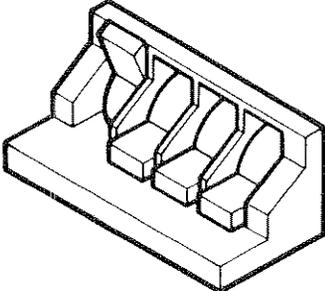

Figure 1-6: Address Switch Settings
Check the peripherals that you are connecting to your computer. The address switches can be set to any one of eight addresses, ranging from 0 through 7. Figure 1-6 illustrates these eight addresses.
3. Compare the four switches to Figure 1-6. In the figure, the switches are described as being "up" or "down". Think of the switches in comparison to your light switches at home. You can flip your light switch up or down. When the switch is at the top, it is "up". When the switch is at the bottom, it is "down".
4. As an example, look at the address "0" in Figure 1-6. When the address is set at "0", the first, second and third switch from the right are all down. The switch farthest to the left is up. For all addresses, this left switch should be up for normal operation.
5. Using Figure 1-6, set your disc drive address to a unique address.